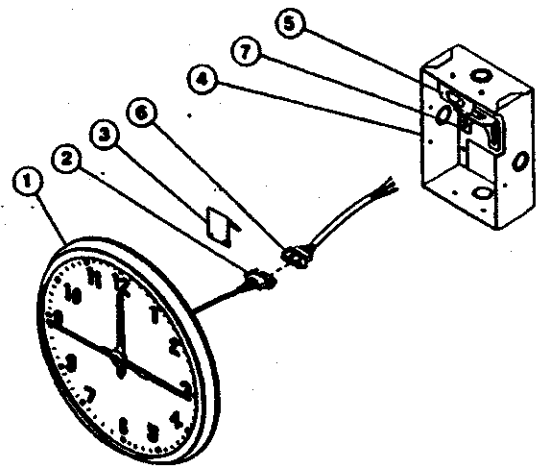

Figure 2: Semi-Flush Mount Assembly
For SS and ISC Clock: Connect system wires to quick disconnect (Fig. 2, #6). The wiring is color coded as follows: RED (Correction Coil), BLACK (Motor), WHITE (Common Return) and Green (Safety Ground).
For SS & ISC Clock: Remove (2) #10-32 screws that secure connector bracket (Fig. 2, #7) and remove bracket. Push socket end of quick disconnect (Fig. 2, #6) into top of connector bracket and reinstall.
Minute impulse wall clocks can be wired to accommodate either two wire or three wire systems. Attach socket end of quick disconnect (Fig. 2, #6) to incoming leads from master control unit, as shown in wiring diagrams, following instructions for either two-wire or three-wire systems.